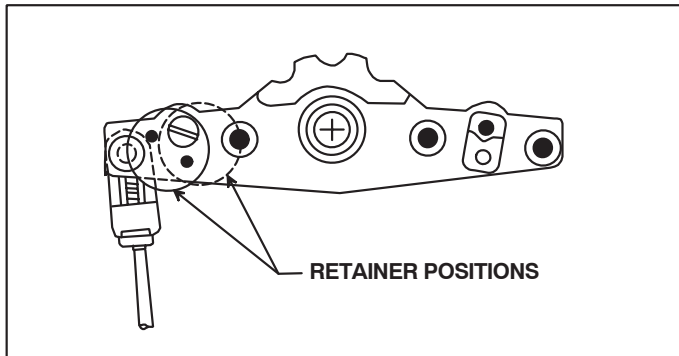

FIGURE 4
6. Place cable hub into groove on lower part of main housing and retain with plate (24), screw (22), and bowed washer (23).
Fasten terminal (20) to arm (17) with pin (29), retainer (19), screw (18), and nut (12). (See Figure 4 & 5.)